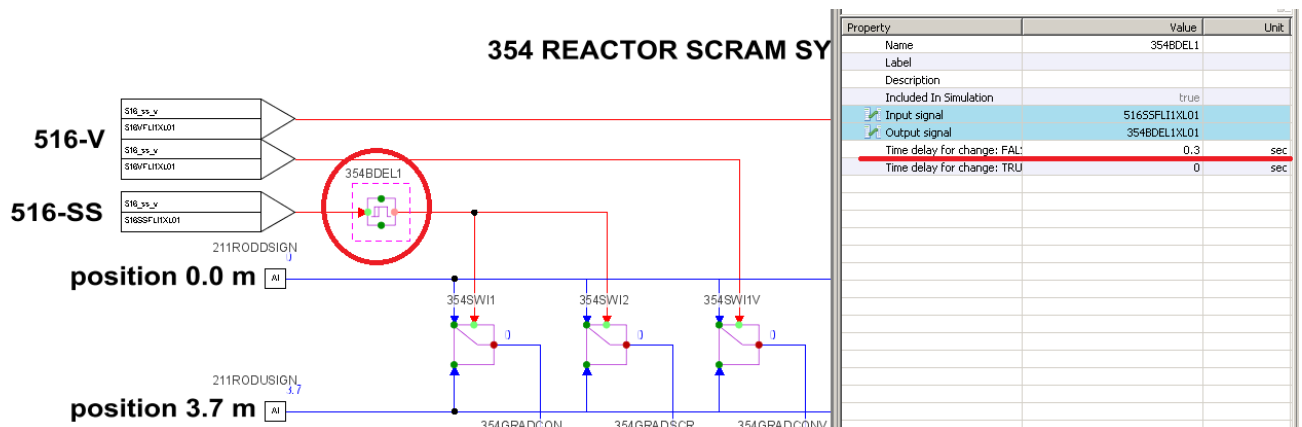

Figure 5. Adjusting the delay for the 516-SS signal
17. There is a 300 ms delay for 516-SS signal in net "354_reactor_scram" (see Figure 5). Try setting this to e.g. 100 ms or 500 ms and repeat the simulation case without preventing the scram signal from 516-A once more. Start from reopening the model.